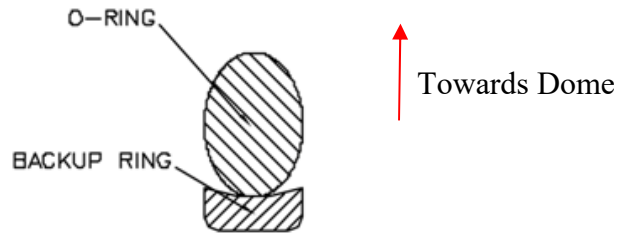

Figure 57: Proper O-Ring and Back-Up Installation Orientation
- a) When a backup ring is being installed, it gets positioned as shown in Figure 57 with the top being towards the dome volume.